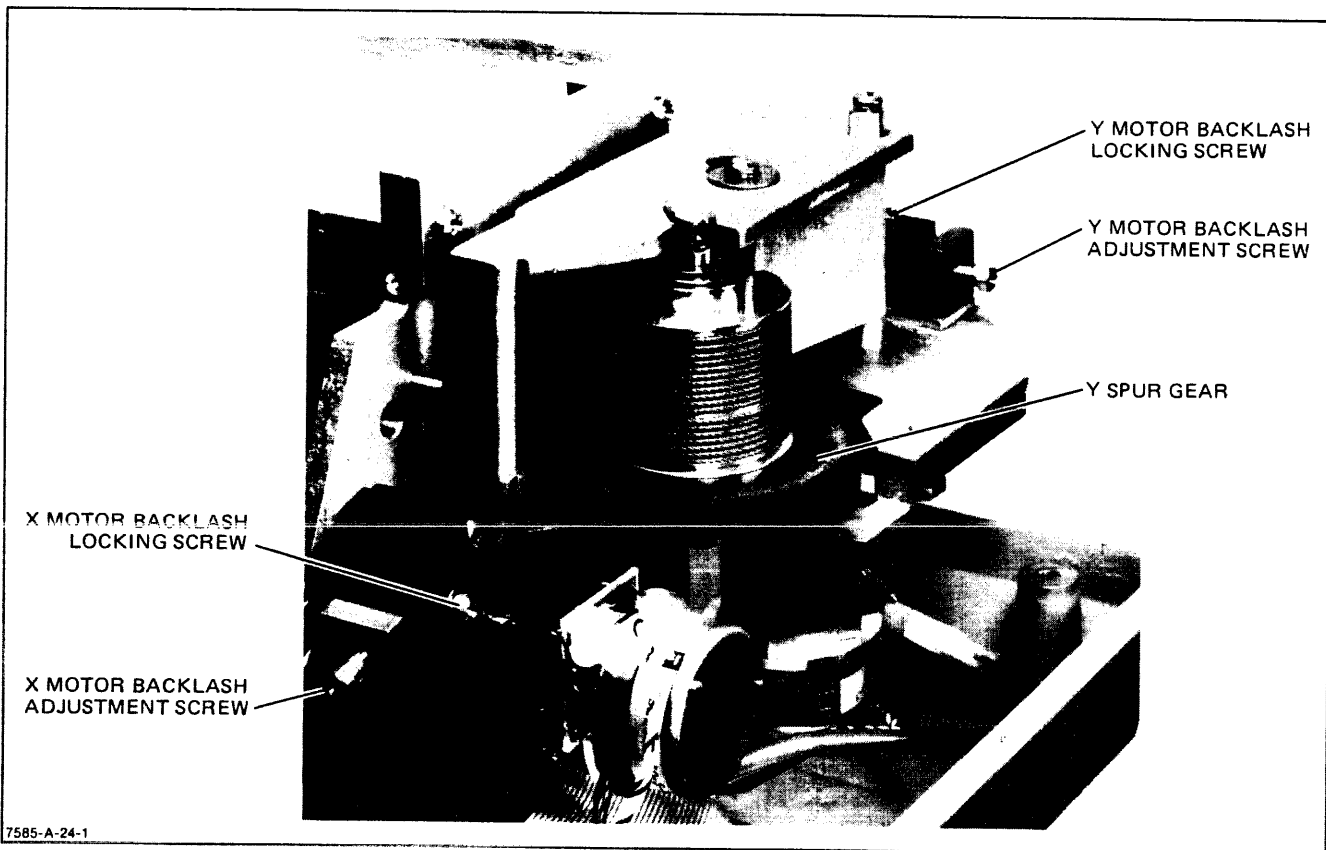

Figure 3-13. X and Y Motor Backlash Adjustments
- j. Turn the rear paper stop adjustment screw clockwise (CW) to move the paper stops toward the paper edge or counterclockwise (CCW) to move the stops away from the paper. Adjust so that the stops are fully flush against the paper edge.
- b. Loosen the X motor backlash locking screw. See Figure 3-13.
- c. Loosen the X motor backlash adjustment screw. See Figure 3-13.
- d. While gently rolling the grit wheel back and forth, turn the X motor backlash adjustment screw clockwise (CW) until all backlash is removed. This can be felt through the rolling back and forth of the grit wheel. Note that excessive tightening will cause binding on the motor bearings.
- f. Loosen the Y motor backlash locking screw. See Figure 3-13.
- g. Loosen the Y motor backlash adjustment screw. See Figure 3-13.
- h. While gently rolling the Y spur gear back and forth, adjust the Y backlash adjustment screw clockwise (CW) until all backlash is removed. This can be felt through the rolling back and forth of the spur gear. Note that excessive tightening will cause binding on the motor bearings.